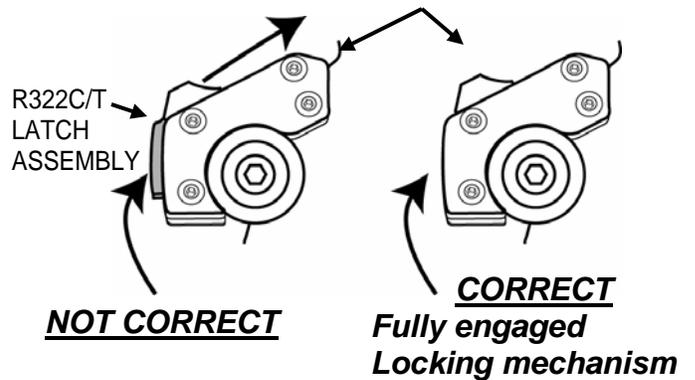

Fig. 3
4. Start with Fork Clamp Bushing adjusted to rear of slot (Fig 3) Then adjust as needed and check for clearance. (See warning above.)
Note: This is a universal mounting kit, additional spacers and bolts have been included. Some applications may require the use of these spacers and bolts. Replace screw and stainless washer with longer screw and thicker washer. (Fig 3)